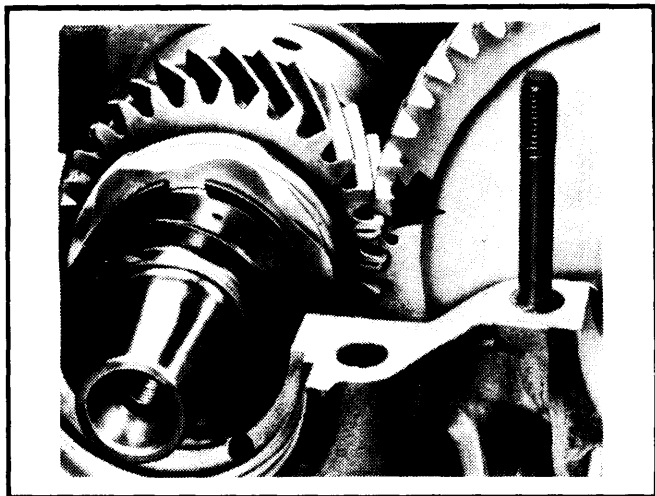

Fig. 12 Position of Camshaft Timing Gear
4) Install camshaft with "O" stamped in tooth on outside of camshaft gear between two teeth with punch marks on crankshaft gear. Assemble crankcase halves as previously outlined (See Fig. 12).